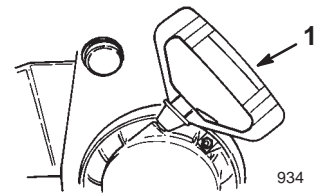

Figure 22
- **Recoil Starter** (Fig. 22)—The recoil starter is on the back side of the engine. Pull the recoil starter to start the engine.
- A. Grasp the recoil starter handle (Fig. 22) and pull it out slowly until positive engagement results; then pull the handle vigorously to start the engine.